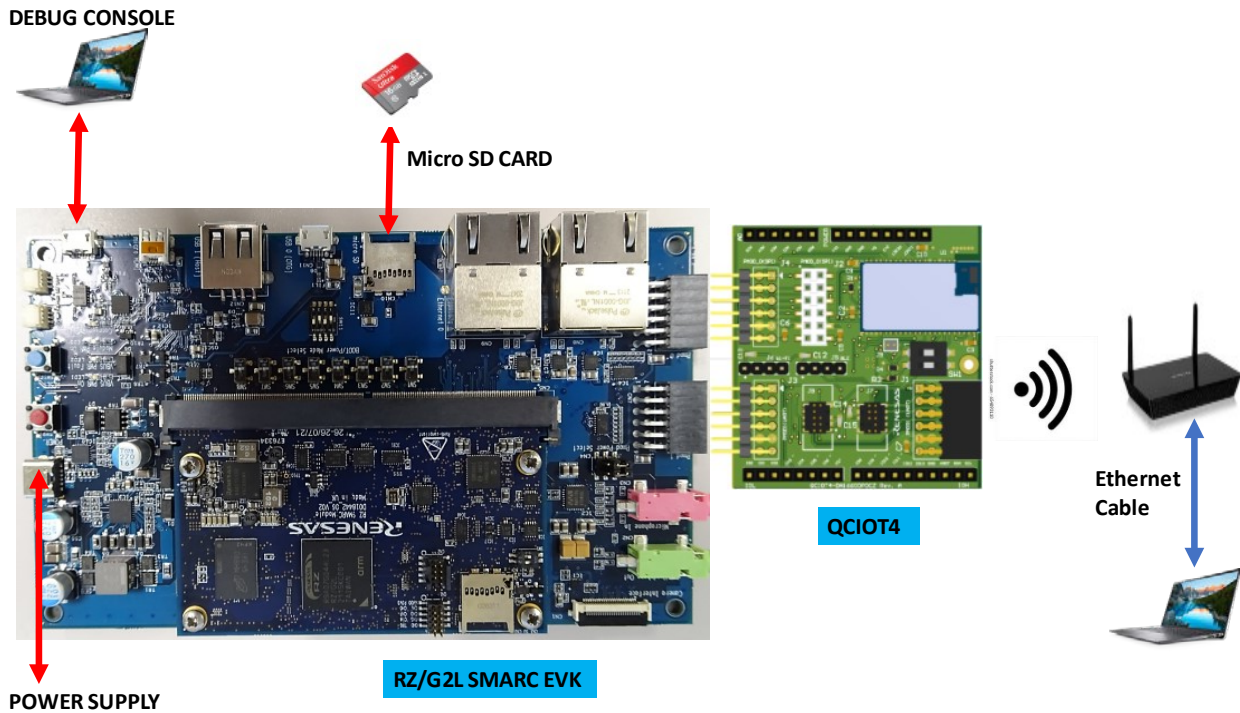

Figure 5. Connection Setup
2. Connect micro-SD card to the slot present in carrier board connection (see Figure 5).
3. Connect debug console to serial terminal application software (see Figure 5).